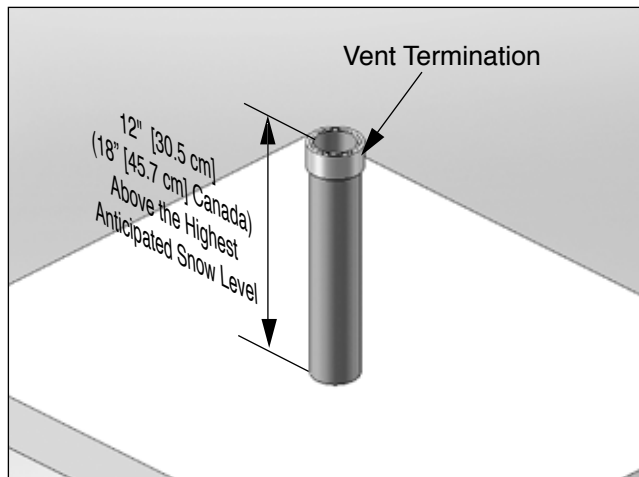

Fig. 15 - Category - IV - Vertical Termination of Vent Pipe
3. The vent piping must terminate vertically with a coupling to accept the bird screen and must be located 12" [30.5 cm] (18" [45.7 cm] in Canada) above the highest anticipated snow level as shown in **Fig. 15 on page 24 below**.
3. Locate the vent pipe penetration to provide clearances as described in *Fig. 15 on page 24*.
3. The vent piping must terminate vertically with a coupling as shown in *Fig. 15 on page 24*.
Do not extend the vent pipe above the roof beyond the dimensions shown in *Fig. 15 on page 24*. Extended exposure of the vent pipe could cause condensate to freeze and block the vent pipe, resulting in substantial property damage, serious injury, or death.